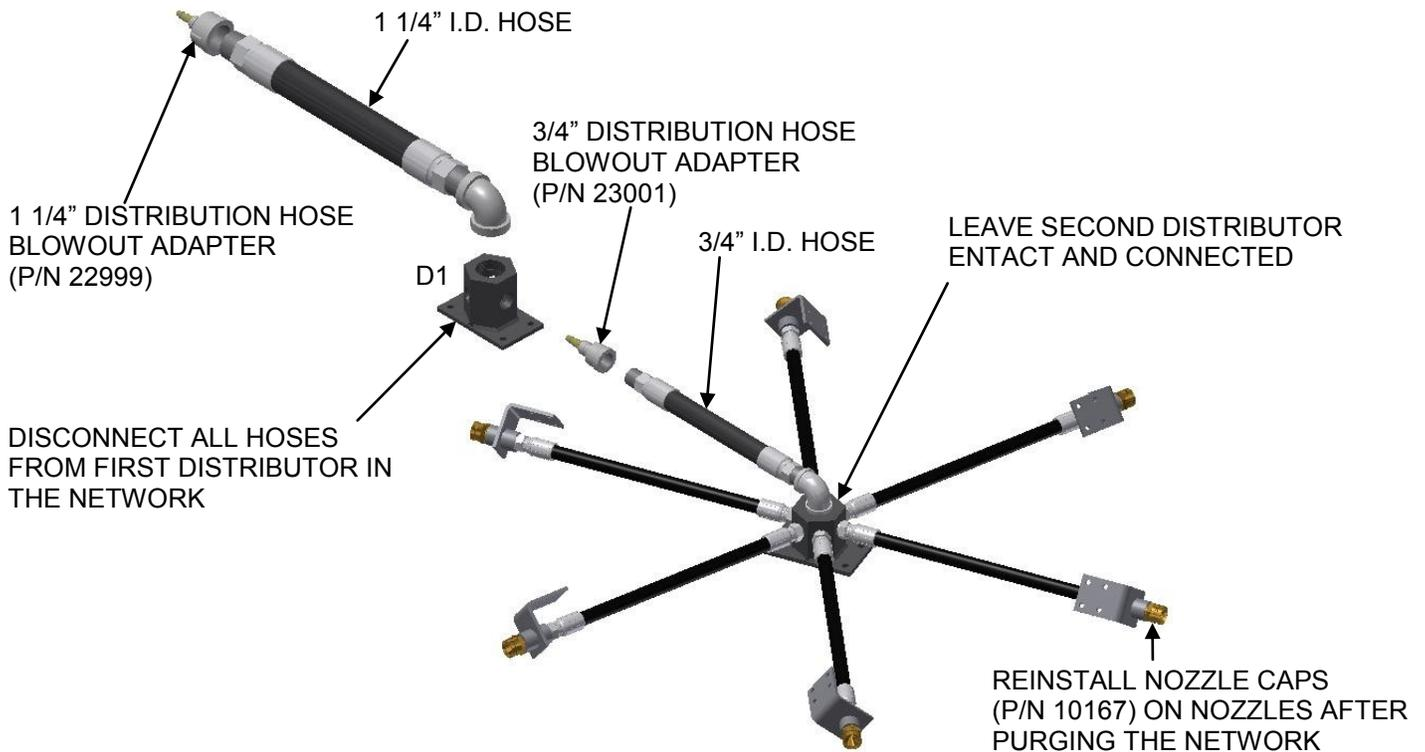

Figure 6.2.2.2
2. Disconnect the 1 1/4" I.D. hose from the first Distributor (D1) in the Agent Distribution Network (See Figure 6.2.2.2).
3. Install Distribution Hose Blowout Adapter 1 1/4" (P/N 22999) into inlet of the 1 1/4" hose (See Figure 6.2.2.2). Purge the 1 1/4" I.D. hose with dry air or nitrogen at a minimum of 90 psi (620 kPa). Continue to purge the 1 1/4" I.D. hose until all Dry Chemical Agent or any debris is free from the hose and only air or nitrogen is free flowing from the opposite hose end.
4. Disconnect each of the 3/4" I.D. hoses from the first Distributor (D1)(See Figure 6.2.2.2).